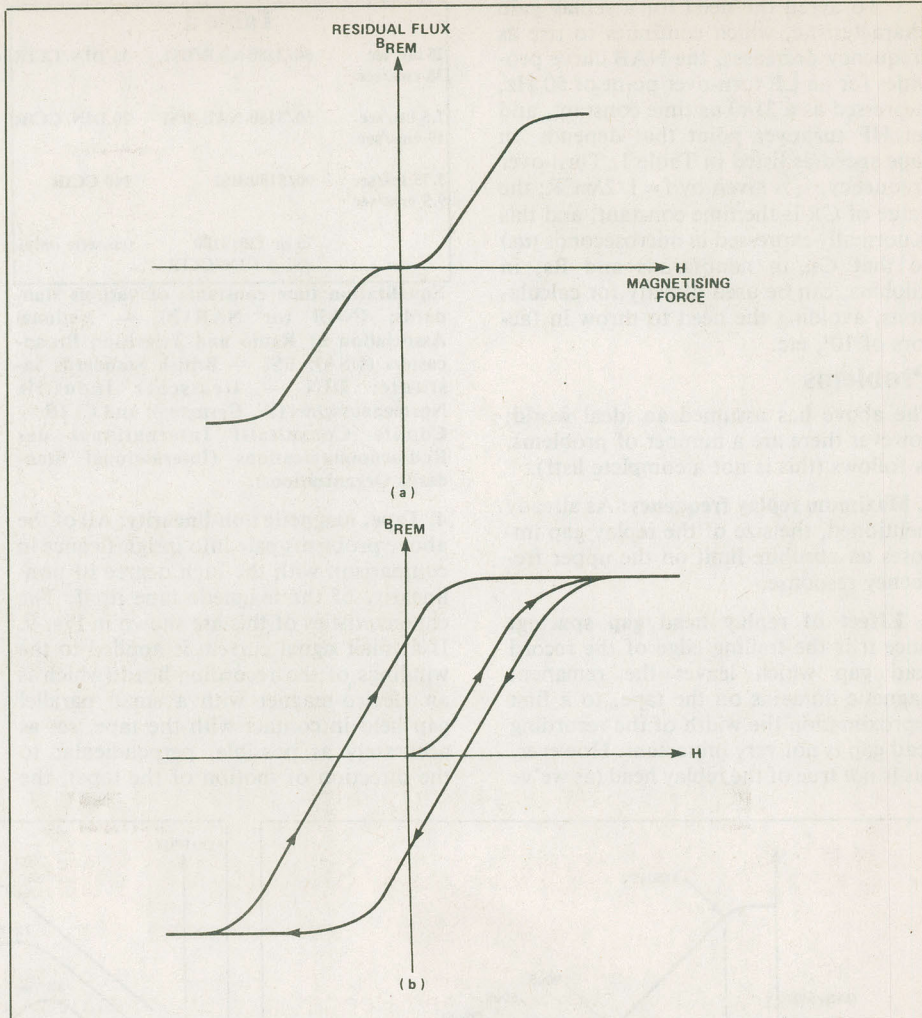

Fig. 9. Tape magnetization characteristics: (a) for small magnetizations; (b) for large magnetizations.
**4. Tape, magnetic non-linearity:** All of the above problems pale into insignificance in comparison with the high degree of non-linearity of the magnetic tape itself. The characteristics of this are shown in Fig. 9. If a small signal current is applied to the windings of the recording head (which is an electro-magnet with a small parallel gap held in contact with the tape, set as accurately as possible, perpendicular to the direction of motion of the tape), the